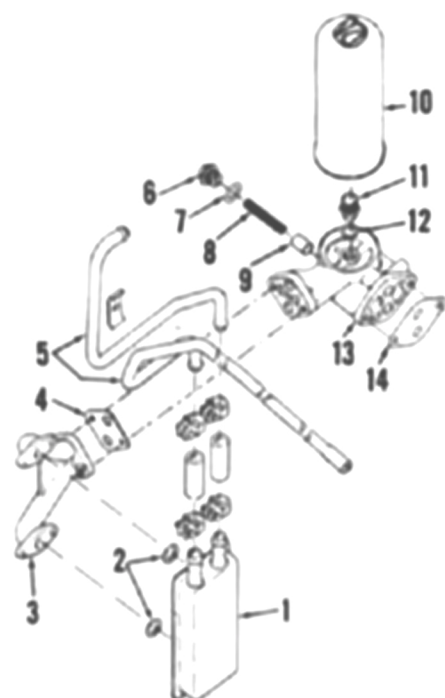

Fig. 47—Exploded view of engine oil cooler and oil filter assembly used on Model 884. Oil cooler relief valve (6 through 9) is located in filter base (13).
53. An engine oil cooler is located on the right side of engine on Model 884 tractors and is attached to the oil filter base. See Fig. 47. The oil cooler relief valve (6 through 9) is located in the oil filter base (13). Inspect oil cooler relief valve (9) for freeness in its bore.